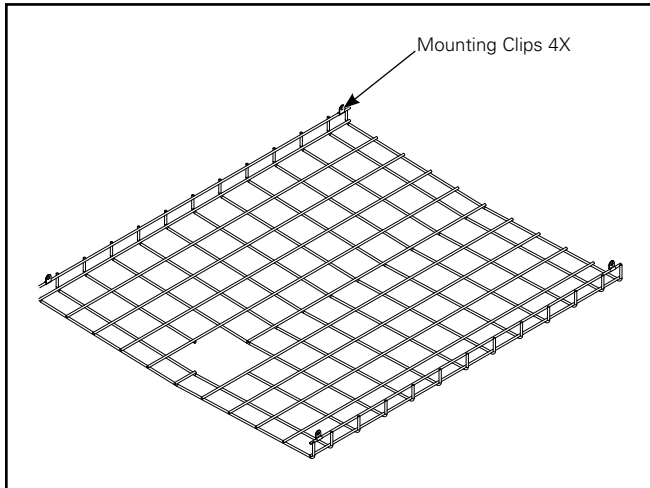

Figure 1.
1. Install the four (4) wire guard mounting clips to each corner of the guard as shown in. (Figure 1.)